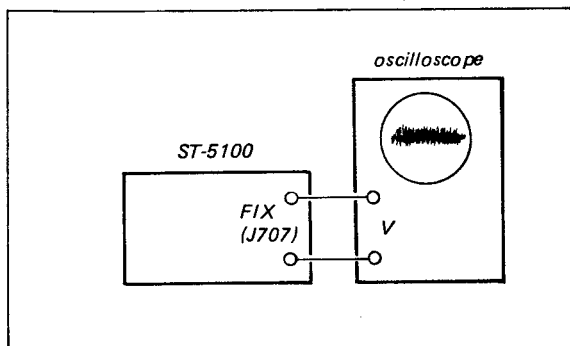

Fig. 3-3 Discriminator alignment test setup
1. With the equipment connected as shown in Fig. 3-3, set the tuner's control as follows: